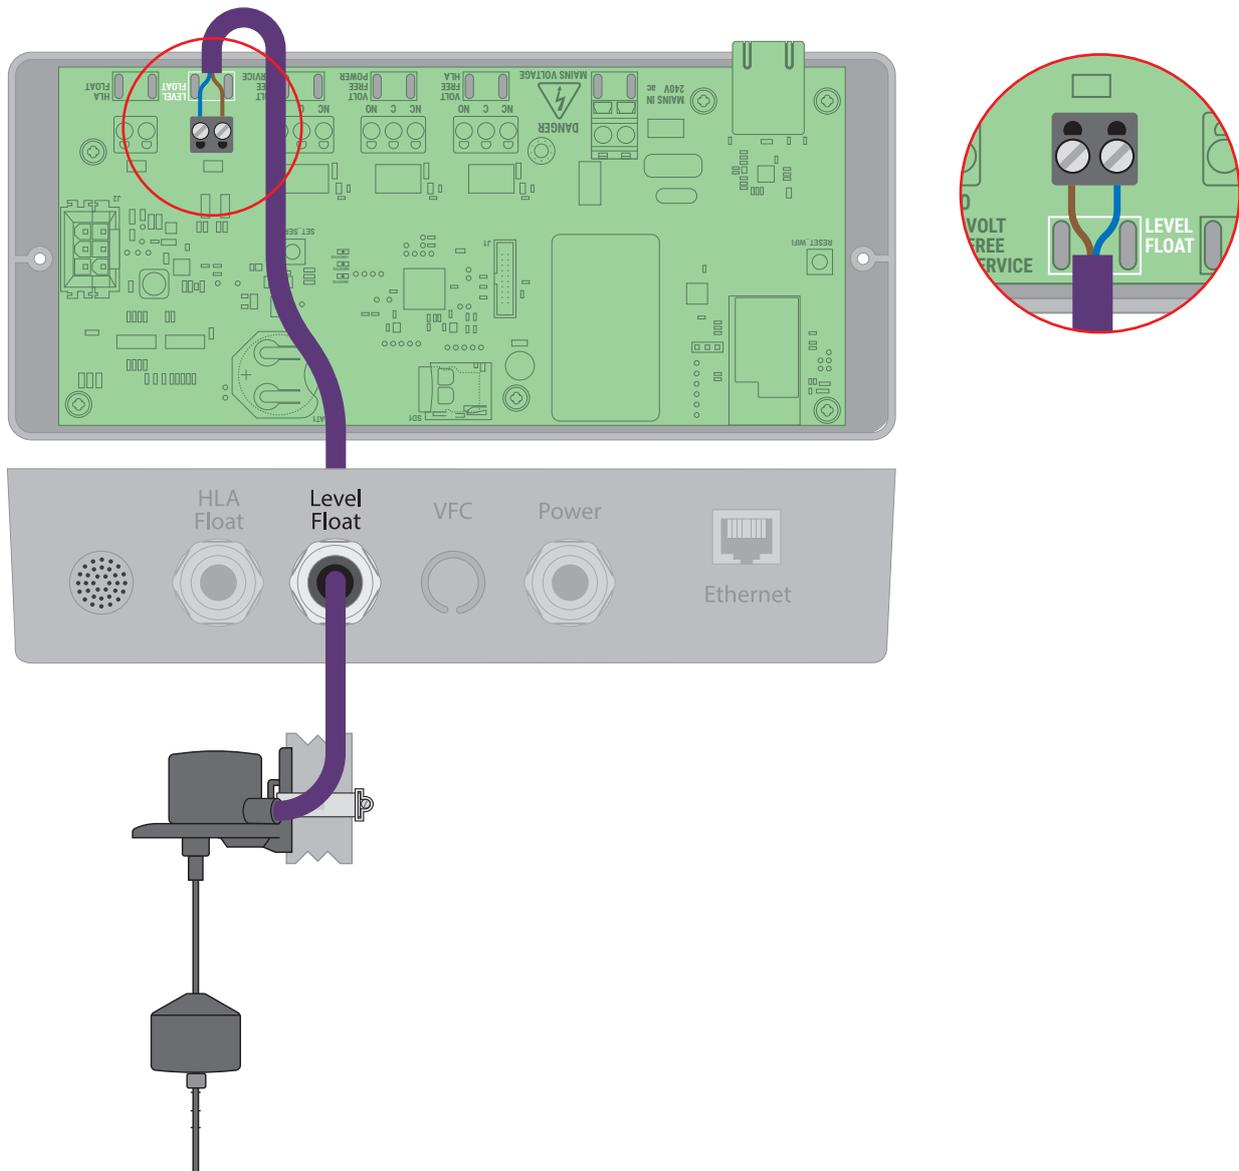

Figure 14. Connecting the Delta Level Float to the Delta HLA Plus Control Unit.
3. Connect the brown core to the left terminal and the blue core to the right terminal of the LEVEL FLOAT terminal block, as shown in Figure 14.